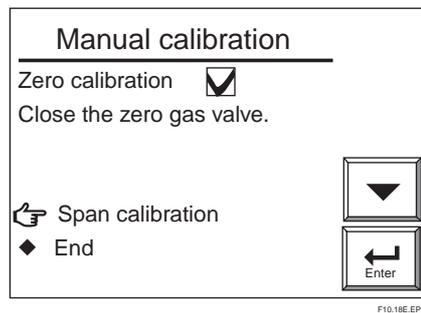

Figure 10.18 Zero-gas Calibration Complete (in Manual Calibration Display)
- (1) Use the needle of the zero gas valve “ CHECK GAS “ to puncture a hole in the gas cylinder installed as described in Section 10.5.2. Fully clockwise turn the valve regulator by hand.
- (2) Next, adjust the flow rate to 600 ± 60 ml/min (the flow check ball stops floating on the green line when the valve is slowly opened). Turn the regulator of the zero-gas valves back slowly counterclockwise. At that time, the flow rate also decreases as the inner pressure of the gas cylinder decreases. Therefore, monitor the flow check and, when the ball’s position changes greatly, readjust the valve.
- (3) Select Valve opened (to start calibration) from the Manual calibration display. Check the Trend graph display to see that the measured value is stabilized. Then press the [Enter] key. The Manual calibration display shown in Figure 10.18 appears. Then stop the zero-gas flow immediately. Turn the zero-gas valve regulator fully clockwise. If this valve regulator is not properly adjusted, the needle valve will not close completely and a cylinder gas may leak.
- (2) Adjust the flowrate and select Valve opened from the Manual calibration display. Check the Trend graph display to see that the measured value is stabilized. Then press the [Enter] key. The Manual calibration display shown in Figure 10.18 appears.